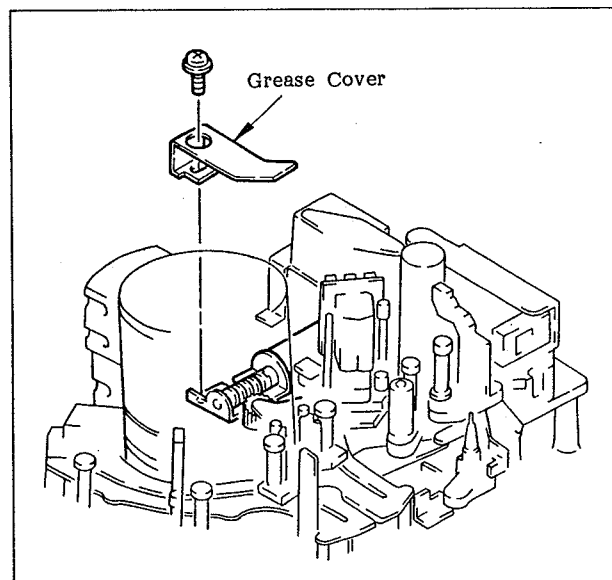

Fig. 5-8 Removing the grease cover
1. Remove the grease cover shown in Fig. 5-8.